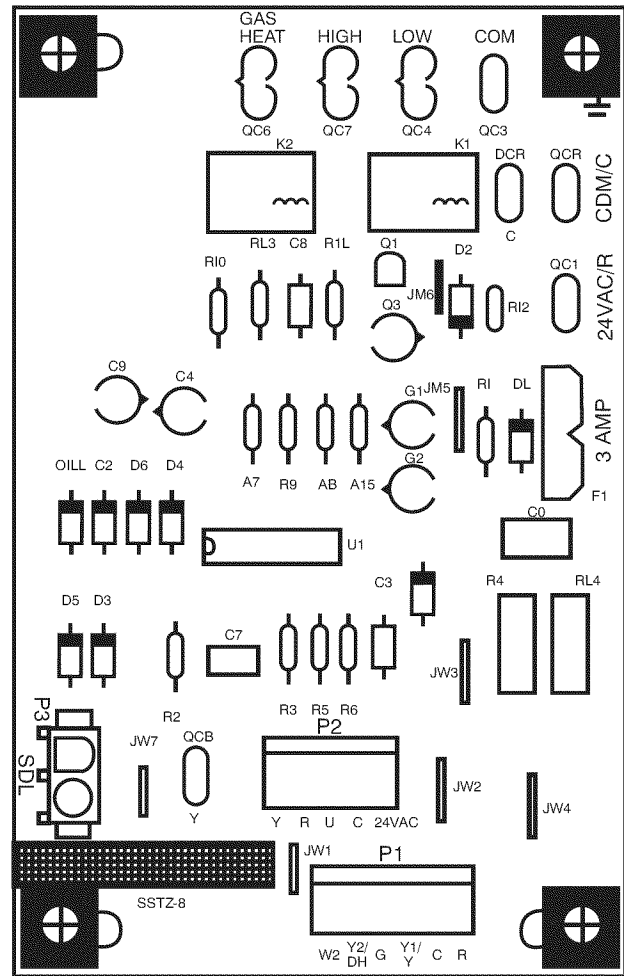

Fig. 17 - Interface Fan Board (IFB)
This unit is factory-set up for use with a single cooling fan speed. The cooling speed is marked "LOW" on the interface fan board (IFB) (See Fig. 17). The factory-shipped settings are noted in Table 8. There are 3 additional speed tap wires available for use in either gas heating or cooling (For color coding on the indoor fan motor leads, see Table 6). The additional 3 speed tap wires are shipped loose with vinyl caps and are located in the control box, near the interface fan board (IFB) (See Fig. 17).
2. Remove the current speed tap wire from the "LOW" terminal on the interface fan board (IFB) (See Fig. 17) and place vinyl cap over the connector on the wire.
1. Remove fan speed tap wire from the "LOW" terminal on the interface fan board (IFB) (See Fig. 17).
When the DEHUM feature is not used, the continuous fan speed will be the same as cooling fan speed. When the DEHUM feature is used, the continuous fan will operate on IFB "LOW" speed when the DH control lead is not energized, or IFB "HIGH" speed when the DH lead is energized (see Fig. 17).